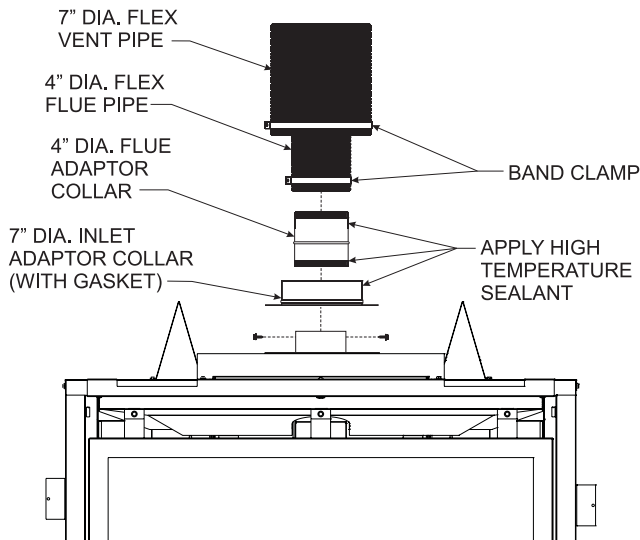

Figure 55
17. To attach the vent connections at the fireplace, be sure the 7" diameter adapter collar has been installed per step 3. Apply a bead of silicone sealant to the 4" diameter flex connector, then slide the flex pipe adapter collar into the fireplace flue collar and secure by installing a minimum of two screws through the flue collar and into the adapter. **See Figure 55.**
18. Apply sealant to the 7" diameter adapter collar, slide outer flex vent over the collar, then secure with a 7" diameter band clamp. **See Figure 55.**